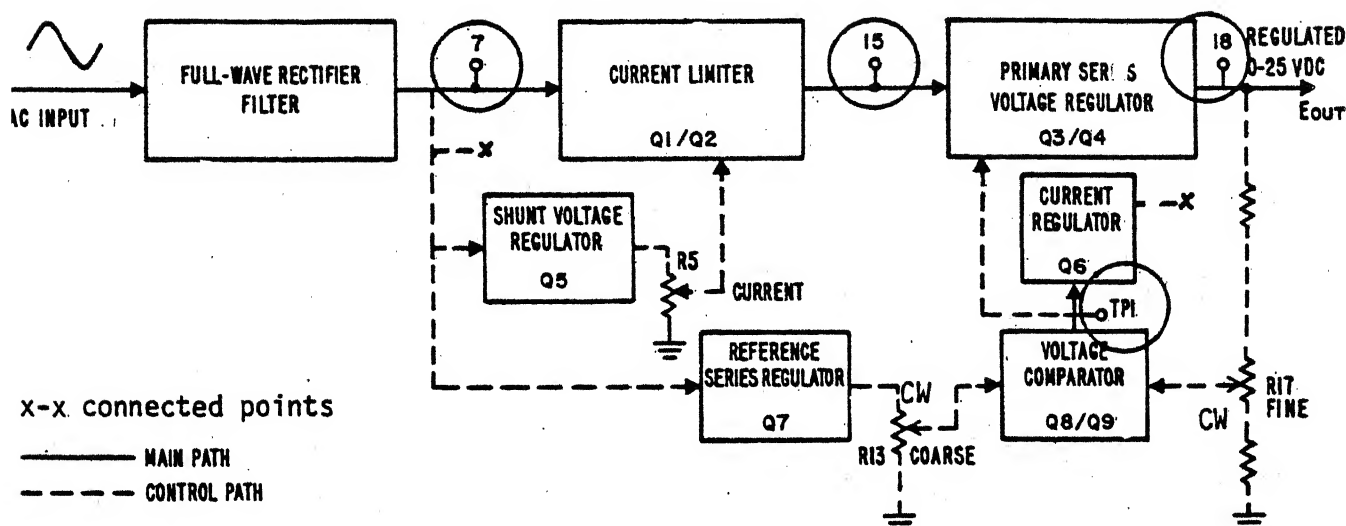

Figure 3
When the output voltage from the supply is zero (0), or front panel control adjustments provide no effect, you must take voltage measurements on one or more of the four test points on the PC 201 card. Figure 3 shows the position of the test points on the PC 201 transistor regulator block diagram.